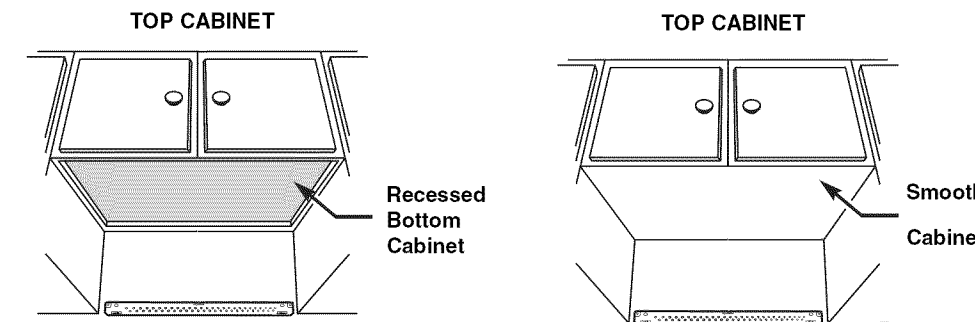

FIG. 1
1. Determine if your cabinet has a recessed area or a smooth, flat bottom. See Fig. 1. If smooth, tape template onto the bottom surface (Fig. 2). If it is recessed, cut the edges of the template to fit in the recessed bottom of the cabinet. It is important that the edges of the cabinets permit level installation of the oven. Follow directions below for cutting.